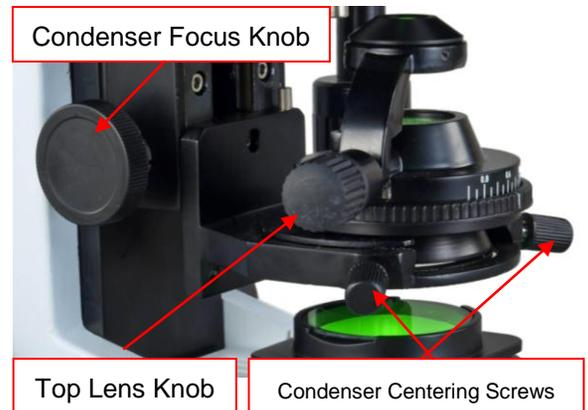

Fig.4
- 5) Turn the condenser focus knob (**Fig. 4**) to raise or lower the condenser till the image of field is focused.
- 6) Turn the condenser centering screws (**Fig. 4**) to move the image of the field into the center of the viewing field.